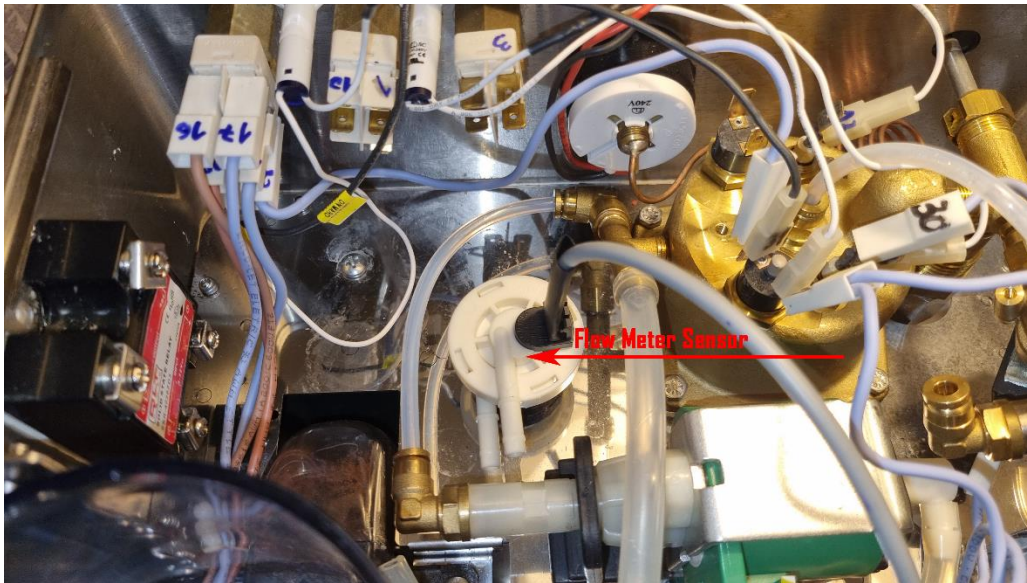

Fig. 4.3
- Take the flow meter from the bag, remove the adhesive tape protection and stick it in position like in (fig. 4.3). You can remove only the sensor after by pulling up for better access. The base will remain glued.